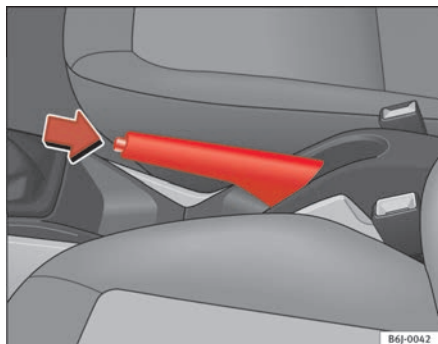

Fig. 102 Handbrake between the front seats
- Pull the handbrake lever up firmly ⇒ **fig. 102**.
- Pull the lever up slightly and press the release knob in the direction of the arrow ⇒ **fig. 102** and guide the handbrake lever down fully ⇒ .